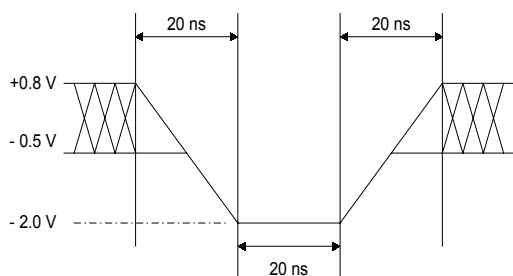
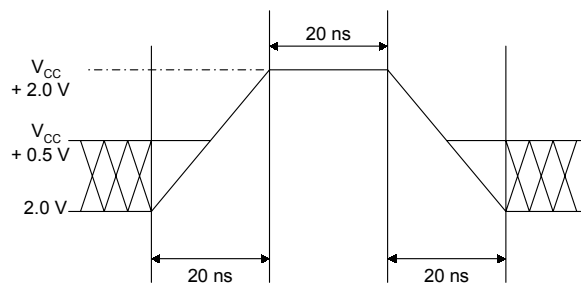

Figure 7. Maximum Negative Overshoot Waveform
Figure 8. Maximum Positive Overshoot Waveform
1. Minimum DC voltage on input or I/O pins is -0.5 V. During voltage transitions, input or I/O pins may overshoot V_{SS} to -2.0 V for periods of up to 20 ns. See Figure 7. Maximum DC voltage on input or I/O pins is $V_{CC} + 0.5$ V. During voltage transitions, input or I/O pins may overshoot to $V_{CC} + 2.0$ V for periods up to 20 ns. See Figure 8.
2. Minimum DC input voltage on pins A9, OE#, WP#/ACC and RESET# is -0.5 V. During voltage transitions, A9, OE#, WP#/ACC and RESET# may overshoot V_{SS} to -2.0 V for periods of up to 20 ns. See Figure 7. Maximum DC input voltage on pin A9 is +12.5 V, which may overshoot to 14.0 V for periods up to 20 ns. Maximum DC input voltage on WP#/ACC is 9.5V which may overshoot to +12.0V for periods up to 20ns.